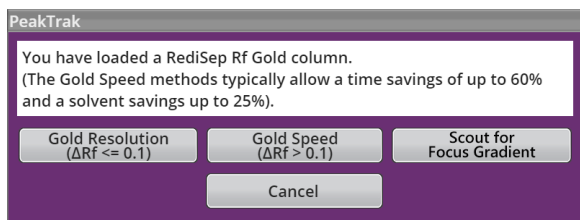

Figure 1. Gold Speed and Gold Resolution option upon RFID detection of RediSep Gold column.
- When the column is recognized, a dialog appears (Figure 1). Select **Scout for Focus Gradient**.
5. Choose a solvent system (Figure 1).